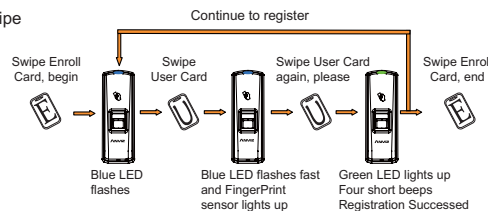

Figure 1.2
- Add Card Only: (Operation Steps show as figure 1.2)**